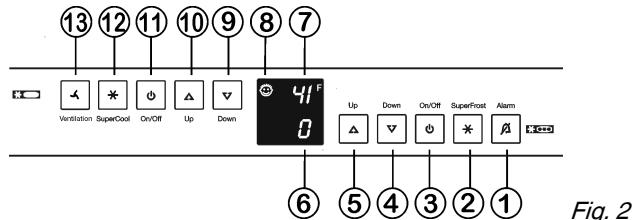

Fig. 2
- Press On/Off button, freezer compartment Fig. 2 (3).